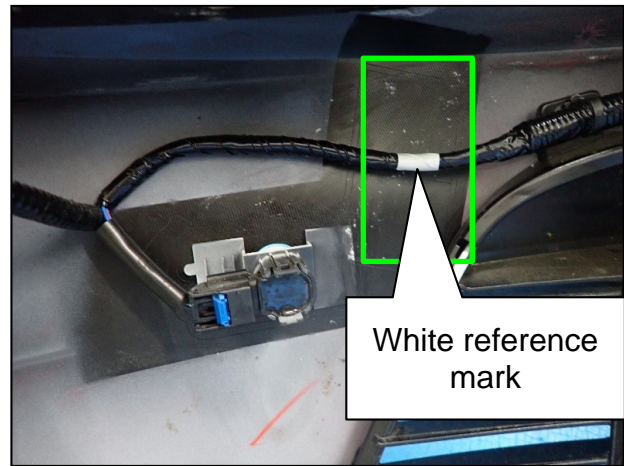

Figure 40
30. Install one (1) protective tape cover onto the driver (LH) side front bumper fascia sub-harness in the area shown in Figure 40.
- Align the one (1) protective tape cover using the white reference mark on the harness and the factory scribe lines on the backside of the front bumper fascia.